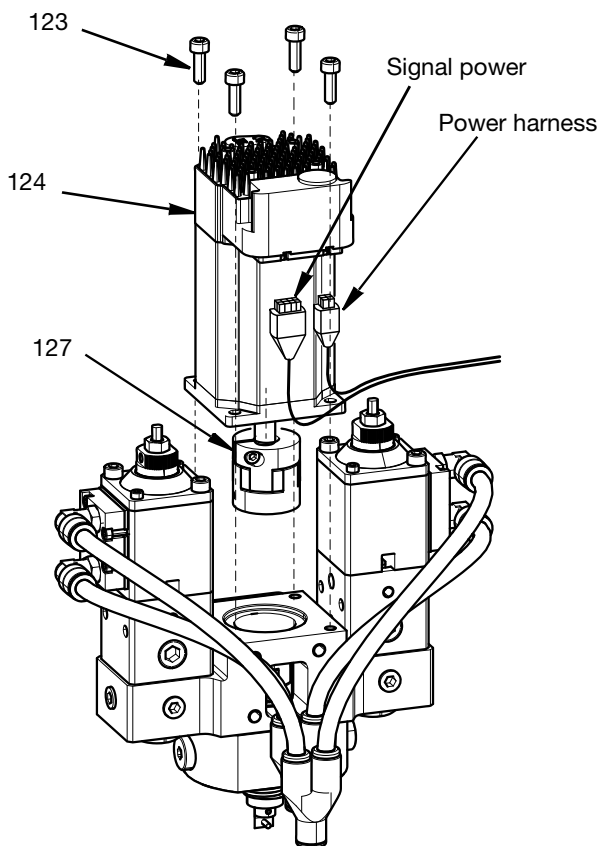

FIG. 54
5. Remove the four M5 x 16 screws (123) with a 4mm allen wrench.
6. Remove the motor(124). See FIG. 54,